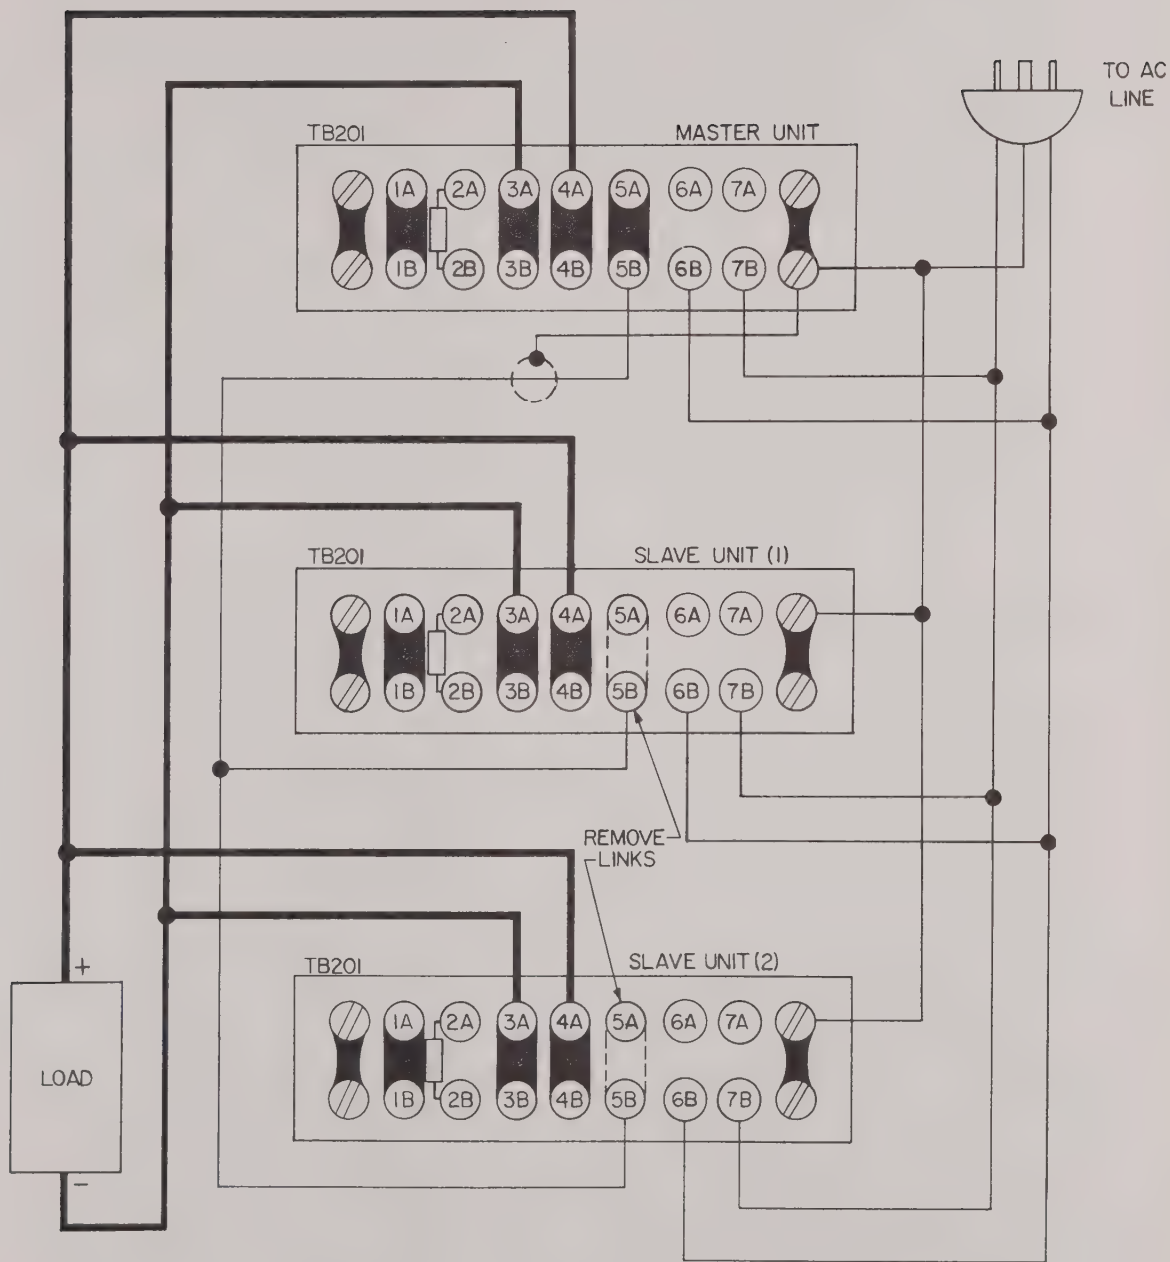

FIG. 3-9 PARALLEL OPERATION OF PAR SUPPLIES MASTER-SLAVE CONNECTIONS
3-39 PROCEDURE (Refer to FIG. 3-9)
- b) Open links (5A)-(5B) on slave units (1) and (2). Connect terminals (5B) on all three units with a shielded lead. Connect the shield to the ground terminal of the master unit.
- c) A common power line connection as shown in FIG. 3-9 is recommended for this operation. Remote error sensing if required may be used from the error sensing terminals of the master unit as described in Paragraph 3-27.